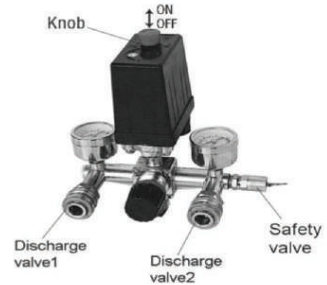

Fig.2
5. Open the outlet valve, set the knob of pressure switch in position on (Fig.2), let the compressor run 10 minutes with no load to ensure lubricating the moving parts before regular service.